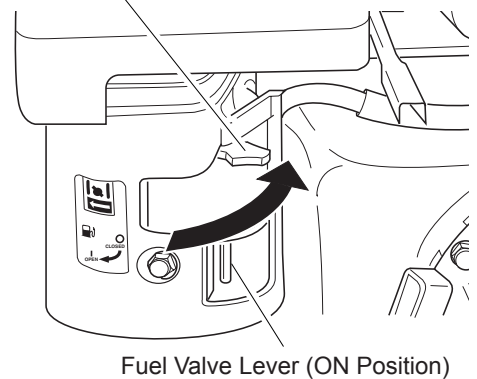
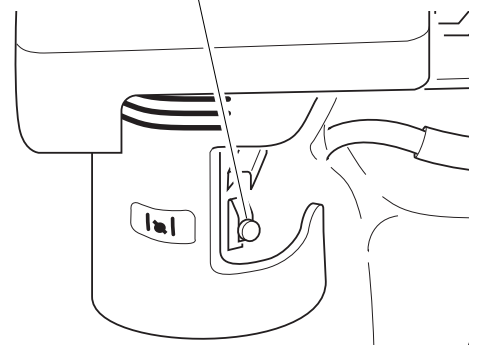

Figure 13 - Choke Lever Opened (Model MGR4500I Shown)
Figure 14 - Choke Lever Opened (Model MGR6000I Shown)
5. As engine warms up, slowly move choke lever fully to the right (see Figure 13) (all models except MGR6000I). This opens the choke. On Model MGR6000I, slowly push in choke button until fully depressed (see Figure 14).